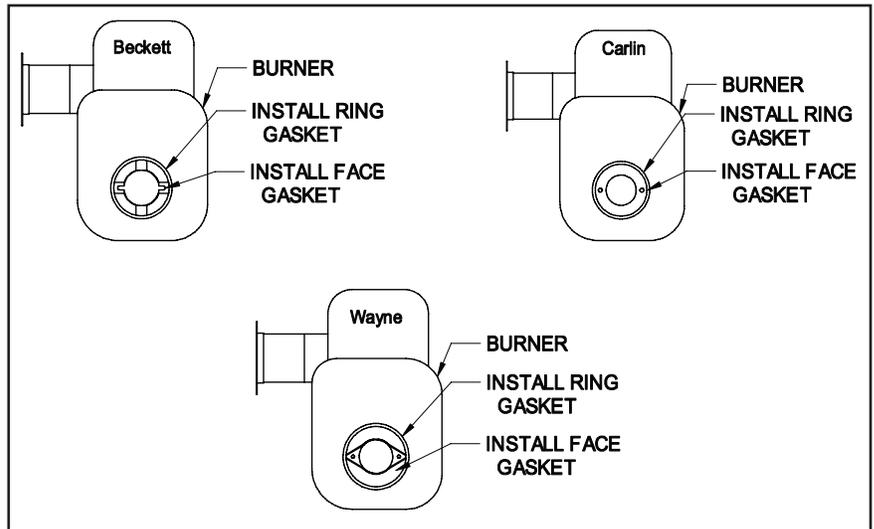
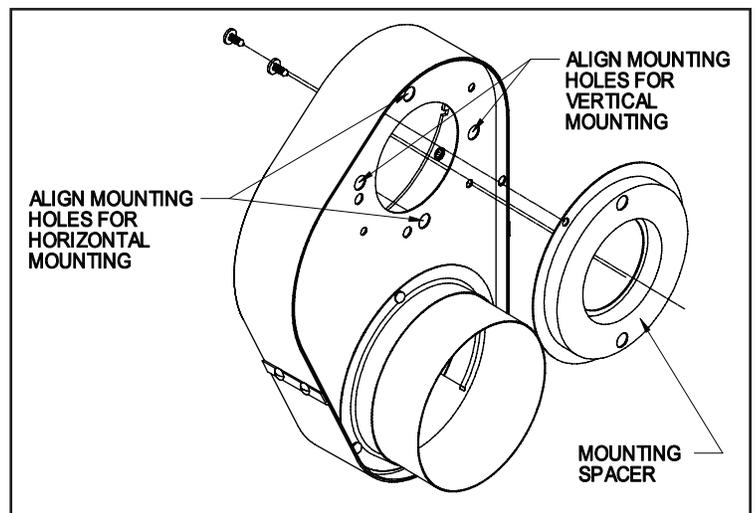
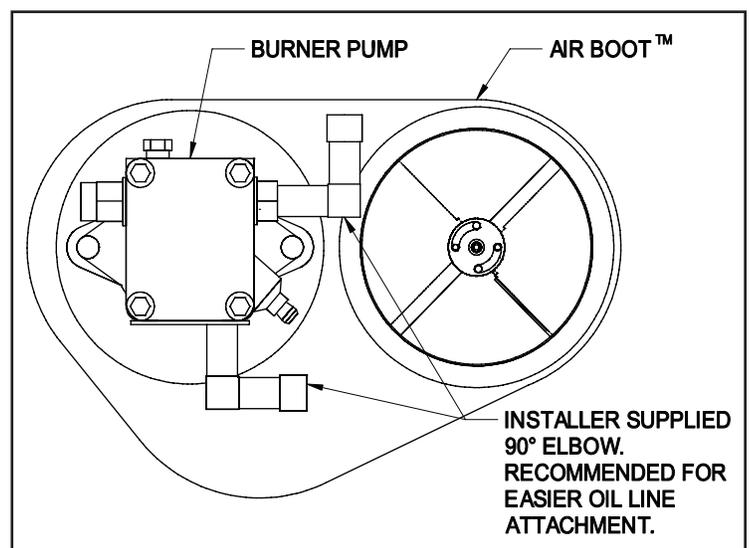

Figure 1
Figure 2
Figure 3
1. Remove the oil pump and air bands from the burner housing. Install the sealing gaskets onto the burner housing. Failure to install the ring gasket onto the burner housing will result in unlevel boot, noisy operation, and improper CO2 readings. (See Figure 1) Install mounting spacer onto Air Boot. (See Figure 2) Position the Air Boot over the burner housing on the intake. The Air Boot™ can be mounted onto the burner in a horizontal or vertical position. Install mounting spacer onto Air Boot™. Align the holes in the Air Boot with the holes in the housing and re-attach the oil pump. (See Figure 3)